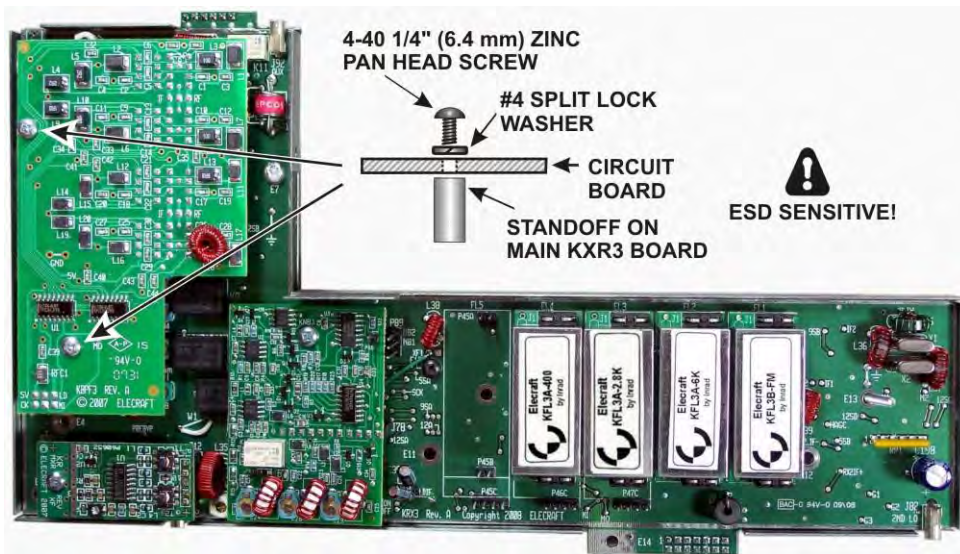

Figure 41. Mounting the KPBF3 Board.
□ If you have the KPBF3 option, install the board now with 4-40 1/4" (6.4 mm) pan head screws and #4 split lock washers as shown in Figure 41. These screws and washers are supplied with your KPBF3 option. Be sure all three connectors on the KPBF3 are properly mated with their counterparts on the KRX3A board.